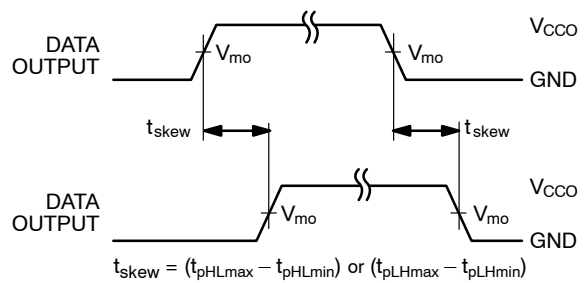

Figure 15. Output Skew Time
14. Skew is the variation of propagation delay between output signals and applies only to output signals on the same port ( $A_n$  or  $B_n$ ) and switching with the same polarity (LOW-to-HIGH or HIGH-to-LOW) (see Figure 15). Skew is guaranteed, but not tested.